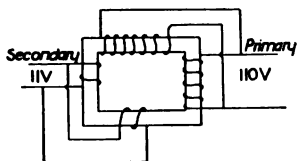

FIGURE 219. — 110 VOLTS TRANSFORMED TO 11 VOLTS.
2. If the primaries are connected in parallel and the secondaries in parallel, the voltage will be $\frac{1}{10} \times 110 = 11$. (Figure 219.)